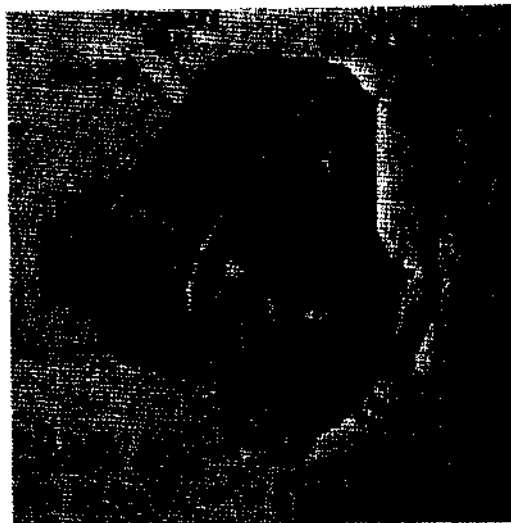

Figure 303. Handbrake mounted on rear of transfer
j. Handbrake. The handbrake consists of a brakedrum (fig. 303) and a pair of brakeshoes mounted at the rear of the transfer and actuated by a cable connected to the handbrake lever (par. 131) in the cab. The drum is bolted to the transfer rear output shaft, and the two brakeshoes are pinned together and then bolted to a bracket extending from the transfer rear-output-shaft-bearing cover. Operation of the handbrake lever causes the cable to pull the upper end of the brakeshoe lever toward the center of the brakedrum. This causes the